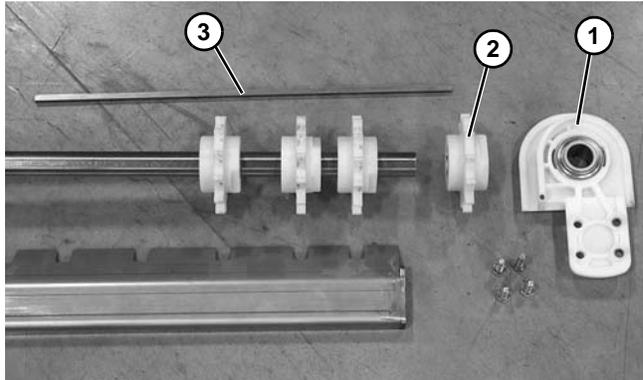

Figure 49
- Slide the headplate with bearing (**Figure 49, item 1**) off the shaft. Replace bearing if worn. Refer to “Bearing Replacement” on page 25.
- Slide off the drive sprocket (**Figure 49, item 2**).
- Remove the shaft key (**Figure 49, item 3**).